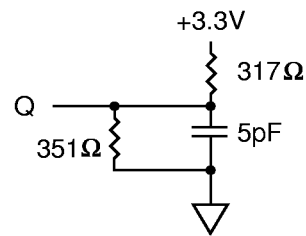

Figure 2
- The load used for V_{OH}, V_{OL} testing is shown in Figure 2. AC load current is higher than the stated DC values. AC I/O curves are available upon request.
3. This parameter is measured with output load as shown in Figure 2.